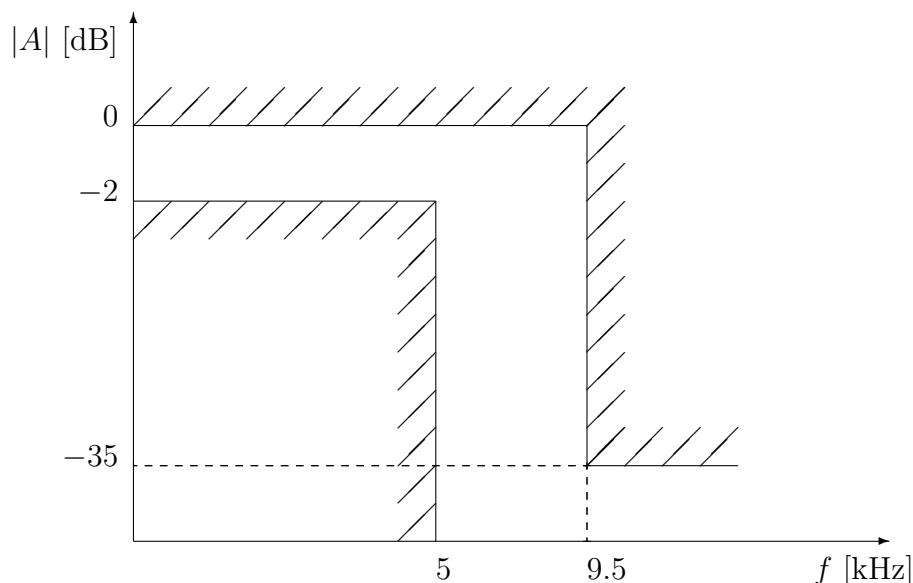

Figure 1: Low-pass filter magnitude specification.
Your first task is to find a transfer function1 which meets the low-pass filter specification illustrated in figure 1.
- Use the `buttord` function to determine the necessary order for a Butterworth filter to meet the specifications in figure 1. (Don't leave out the extra argument `'s'` which specifies a time-continuous filter! Beware of the use of frequency vs. angular frequency!)
You are now equipped to implement a filter according to the specification in figure 1, using a cascade of **sk** stages.
- Construct a filter according to the specifications in figure 1. Use one **sk** cell for each complex-conjugated pole pair. Real-valued poles (if any) may be implemented as simple RC links. The overall gain will be larger than 0 dB and should be compensated for with a resistive divider at the output. Save a plot of your filter circuit for your report.
- Inspect the plot and compare the curves with the specifications shown in figure 1. Zoom in on the edges of passband and stopband. Most likely, you will find that some of your curves violate the specification. Save plots for your report.